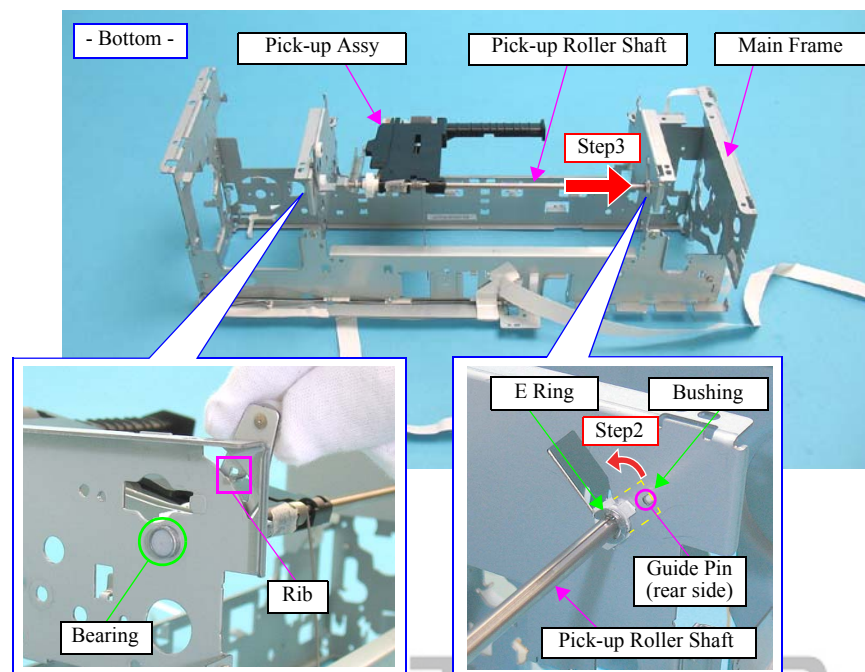

Figure 4-210. Removing the Pick-up Assy
- Insert the rib of the Pick-up Lever shown in Figure.4-210 into the hole of the Main Frame.